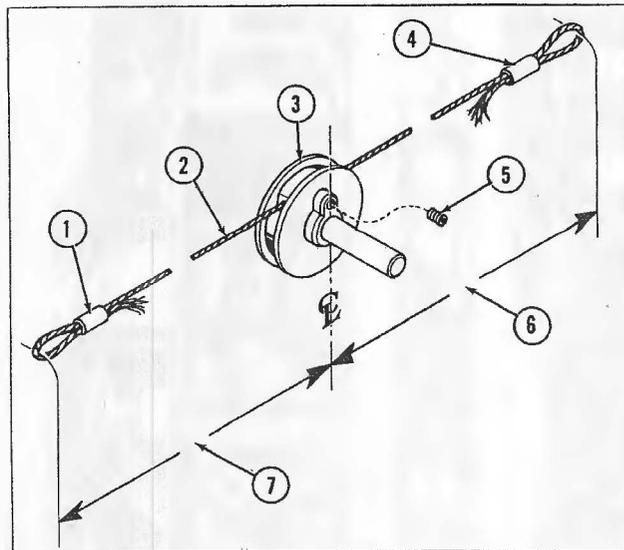

Fig. 86. TURNTABLE CABLE AND DRIVE PULLEY
(1) To install a new cable for the turntable actuating shaft assembly, pass the cable (Fig. 86, Item 2) through the hole in the drive pulley (Item 3) and form a loop at each end of the cable  $3/4$  of an inch long, clamping with sleeves (Items 1 and 4). Locate the cable in the pulley to conform to the dimensions shown at (Items 6 & 7) and lock securely with the set screw (Item 5).